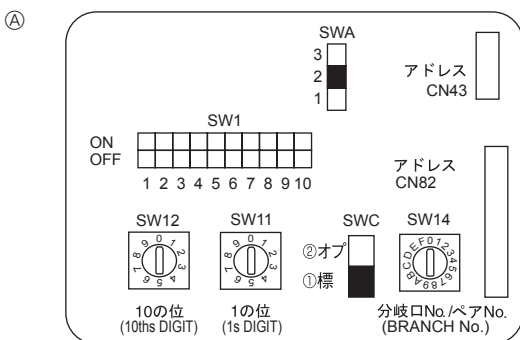

Fig. 6-4
- ③ Wireless remote controller(When installing wireless signal receiver)
6.5. Setting addresses (Fig. 6-4)
6.6. Switch setting for different ceiling heights (Fig.6-4)